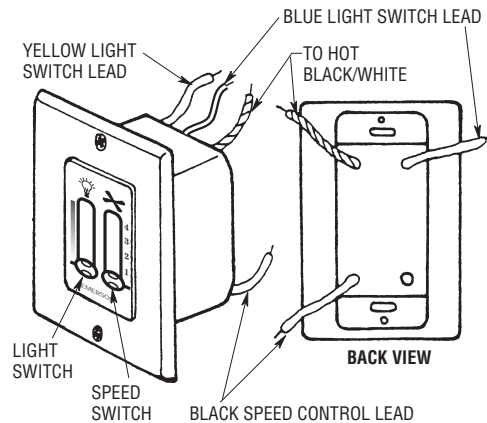

Figure 20
- 3. Set all knobs on the fan/light control in the off (down) position (Figure 20).
- 4. Make the following wire connections (Figure 20) and secure with wire connectors supplied: